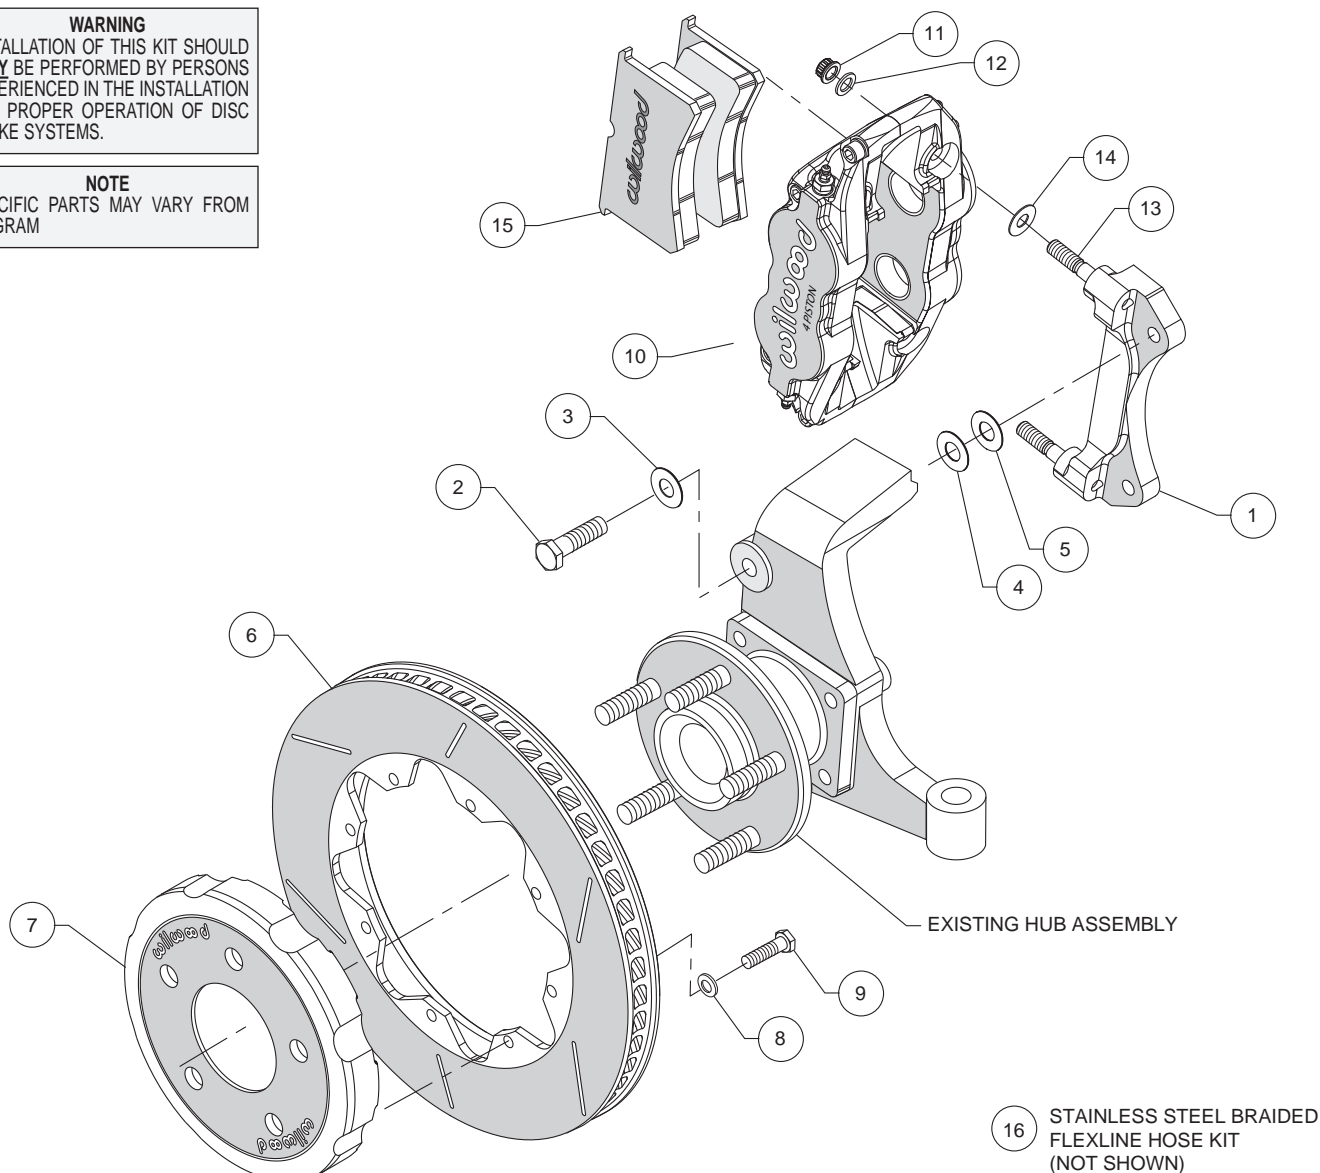
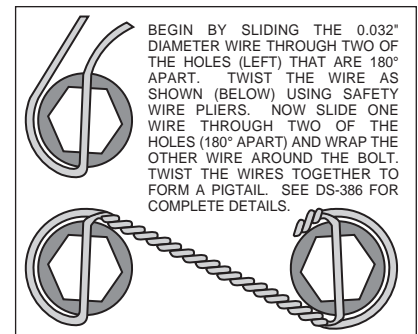

Figure 1. Typical Installation Configuration
Figure 3. Safety Wire Diagram
- The caliper mount bracket assembly (1) should be installed first with clean, dry threads on the mounting bolts. Install the bracket on the inboard side of the spindle by sliding bolt (2) through flat washer (3), and spindle ear from the outboard side of the spindle. Place two shim washers (4) between the bracket (1) and the spindle (see figure 1). The bracket must tighten squarely against the inboard side of the caliper mount bosses on the spindle body. Inspect for interference from casting irregularities, machining ridges, burrs, etc. Later, after the caliper, pad, and rotor alignment has been checked, and any necessary shims have been put in place, the mount bolts should be coated with red *Loctite*® 271 and torqued to 65 ft-lbs.
- With the larger I.D. side of the rotor (6) facing away from the hat (7), attach the rotor (6) to the hat (7) using washers (8) and bolts (9) as shown in Figure 1. Using an alternating sequence, apply red *Loctite*® 271 to the threads and torque bolts to 25 ft-lb. For an added measure of security, the bolts may be safety wired using standard 0.032 inch diameter stainless steel safety wire as shown in Figure 3. Please refer to Wilwood's data sheet DS-386 (available at www.wilwood.com/Pdf/DataSheets/ds386.pdf) for complete safety wire installation instructions.
- Lubricate caliper mounting studs (13) and nuts (11) with lightweight oil. Install two shims (14) over each stud (13) on the radial mount bracket. Slide the caliper (10) in place over the studs and rotor and install the washer (12) and lock nut (11) to hold the caliper in place. The caliper bleed screws should be pointing up. Snug the lock nuts (11) and check that the rotor (6) is centered in the caliper (10). Add or subtract shims (4 and/or 5) as necessary between the mount bracket and the spindle to center the caliper.
- Remove the caliper center bridge pad retainer bolt, nut, and tube from the caliper. Slide the brake pads (15) into place. They should install easily without interference. Check that the outside radius of the brake pad is flush with the outside diameter of the rotor face. Add or subtract shims (14) between the caliper and mount bracket to gain the proper alignment. Reinstall the center bridge pad retainer tube, bolt, and lock nut. The locknut should be snug without play in the bolt or tube. Be cautious not to over tighten.
- Once all clearances have been checked, remove the wheel, caliper, hat, and rotor from the spindle and hub. Secure the caliper mounting bracket (1) to the spindle using red *Loctite*® 271. Torque the bolts to 65 ft-lbs. Reinstall the hat and rotor assembly and again use several lug nuts to hold it in place. Reinstall the caliper, torque the caliper nuts (11) to 30 ft-lbs.
- Install braided flexline kit part number 220-6746. The 10mm x 1 to -3 (P/N 220-6890) male fitting installs to the stock bulkhead. Then install the straight 1/8-27 to -3 NPT (P/N 220-6956) fitting into the caliper (10). Finally, install the flex line (P/N 220-6746) to the two previously installed fitting. **Carefully route lines to prevent contact with moving suspension, brake or wheel components.** Wilwood hose kits are designed for use in many different vehicle applications and it is the installer's responsibility to properly route and ensure adequate clearance and retention for brake hose components.